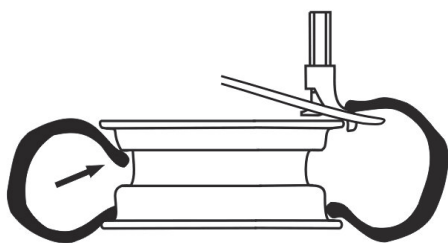

Fig.23
- Press lever as Fig. 22-2 and press wheel as fig. 22-1, until upper edge of wheel as Fig. 23, press lever slowly, until upper edge of wheel hang on the mounting head.